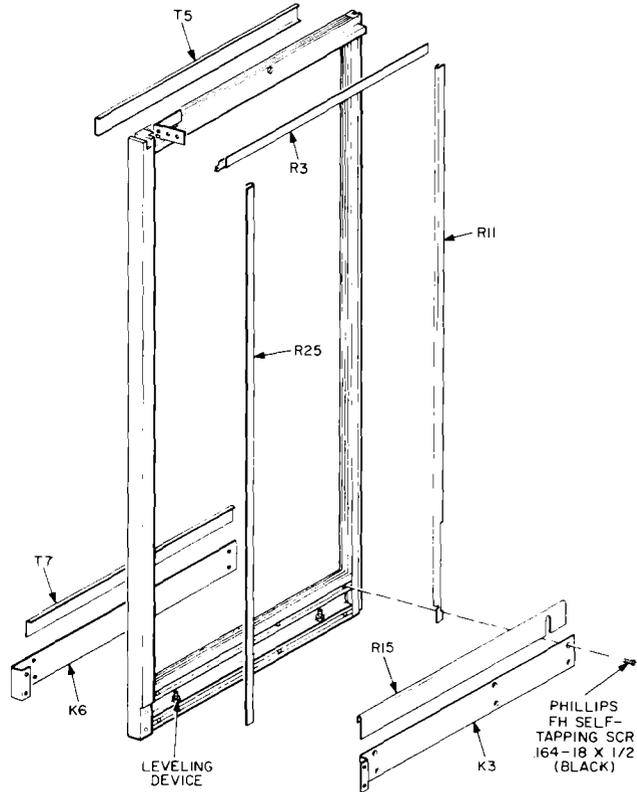
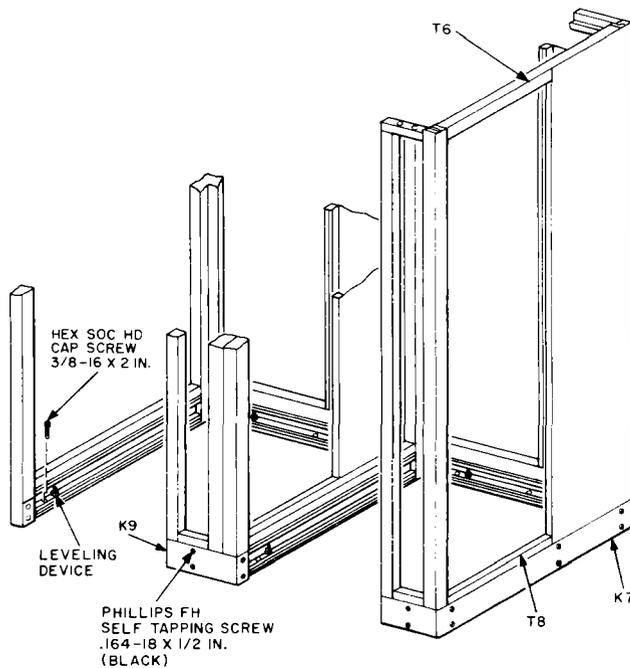

Fig. 15—Partial View of Left Wall
Fig. 16—Partial View of Two Booths
(2) Place List 21 booth to the right of the previous booth and perform operations outlined in 3.06 through 3.10.
(3) Remove R3 retaining strip from top left-inside wall of the booth being installed (Fig. 15).
(4) Fasten booth walls together at top using two 1/4-20 by 1-1/2 hex socket head cap screws and at the bottom using two 1/4-20 by 3/4 hex socket head cap screws. Screws are furnished with List 21 booth.
(5) Install R3 in its original position.
- (6) Install T6, T8, and K7 (Fig. 16) on the last right-hand booth of a line-up.
- (8) Install K9 kickplate (packaged separately) on the bottom-front-outside wall between booths (Fig. 16).
(1) Remove and retain the following items from the previous existing or left end booth (Fig. 15):
(3) Repeat 3.31 (3) through (7).
(4) Repeat 3.22 (4).
(5) Remove and retain the following items from the new booth.
(6) Transfer B-651879 rails from the left wall of the new booth to the wall where the glass panel was removed.
(7) Install all items retained in (1) and (5) on the left walls of the booths (Fig. 15).